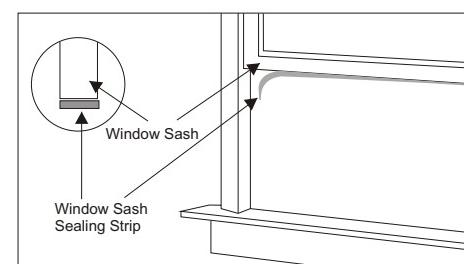

Fig. 9
**D.** Cut the **seal strip** to fit the underside of the bottom **window sash**. Remove the peel-off backing on the seal and attach it to this sash. See (Fig. 9).